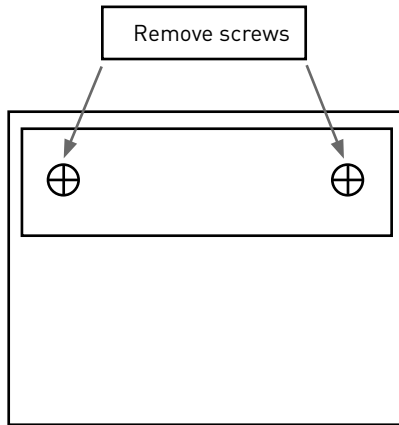

Fig 2
- Remove the screws securing the terminal housing (see Fig 2)